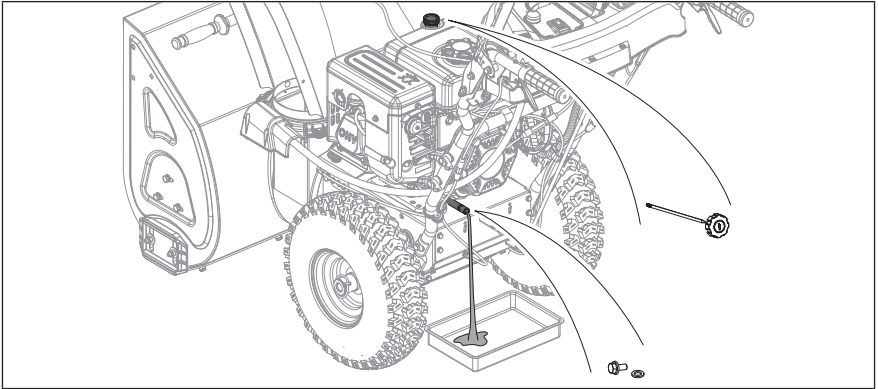

Figure 33
3. Remove the drain bolt and drain the oil into the container by slightly tipping the engine to tilt the oil drain downward. (Fig. 33)